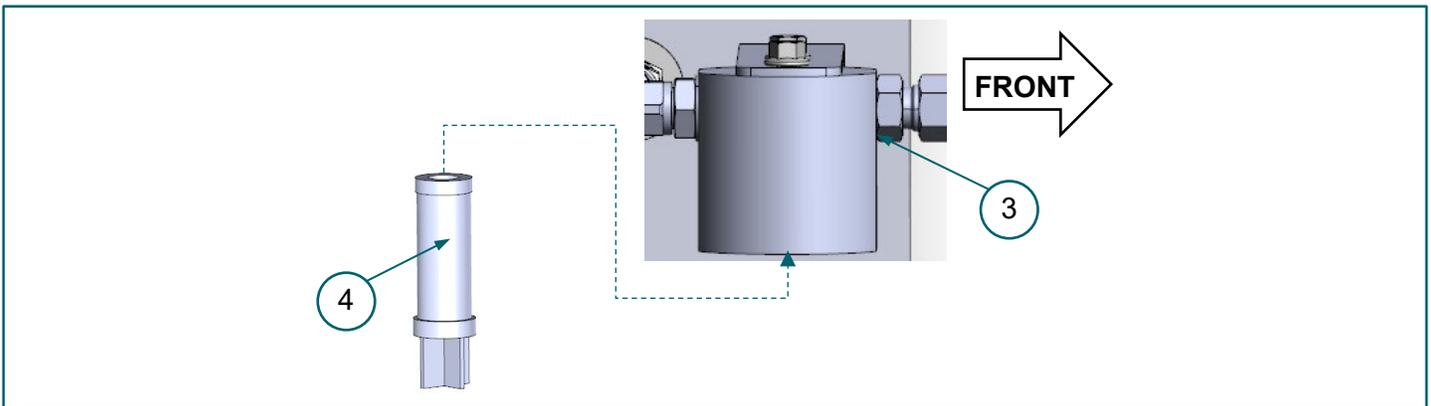

FIGURE 3-6. (3) HP fuel filter head, (4) filter element
7. Install new (4) filter element (Hexagon Agility® p/n 69000481—*kit available separately*) in (3) HP fuel filter head. **FIGURE 3-6**